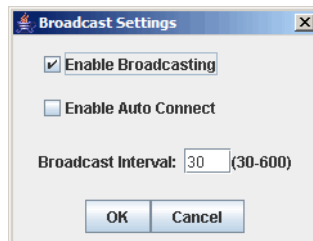

Figure 7-6 Broadcast Settings Menu
- **Broadcast** – Opens the Broadcast Settings window, which allows you to configure the broadcast options. The workstation sends Broadcast messages to locate routers within the same IP subnet as the workstation running the SANsurfer Router Manager application. Figure 7-6 shows the Broadcast Settings dialog box.